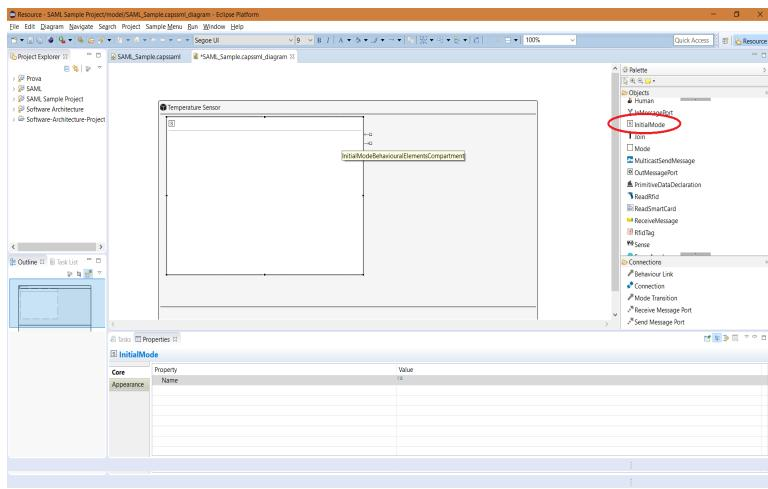

Figure 2.12: Creating the initial mode
- Now you have a simple blank named component. Let's create some logic inside it. **The very first thing you have to do**, is to put inside the component the **Initial mode**. Search it in the **Palette view** and put it inside the component (if you try to create the mode outside the component, well, you will not be able to do that) (figure 2.12). What is an **initial mode**: it's the group of logic that is active when **the component starts working**. It will be more clear in a few steps;